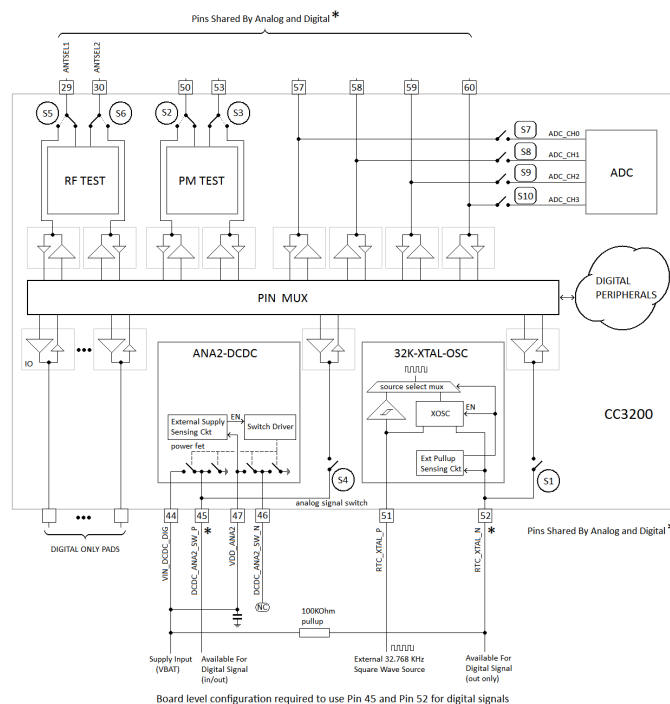

Figure 3-2. Board Configuration to Use Pins 45 and 52 as Digital Signals
(1) LPDS mode: The state of unused GPIOs in LPDS is input with 500 kΩ pulldown. For all used GPIOs, the user can enable internal pulls, which would hold them in a valid state.
(2) Hibernate mode: The CC3200 device leaves the digital pins in a Hi-Z state without any internal pulls when the device enters hibernate state. This can cause glitches on output lines unless held at valid levels by external resistors.
(3) To minimize leakage in some serial flash vendors during LPDS, TI recommends the user application always enable internal weak pulldowns on FLASH_SPI_DATA and FLASH_SPI_CLK pins.
(4) This pin has dual functions: as a SOP[2] (device operation mode), and as an external TCXO enable. As a TXCO enable, the pin is an output on power up and driven logic high. During hibernate low-power mode, the pin is in a high impedance state but pulled down for SOP mode to disable TCXO. Because of SOP functionality, the pin must be used as output only.
(5) Higher leakage current from the onboard serial flash can occur due to floating inputs when the device enters Hibernate mode. See reference schematics for recommended pull-up and pull-down resistors.
(6) For details on proper use, see Section 3.2, Drive Strength and Reset States for Analog-Digital Multiplexed Pins.
(7) This pin is one of three that must have a passive pullup or pulldown resistor on board to configure the chip hardware power-up mode. Because of this reason, if this pin is used for digital functions, it must be output only.
(8) This pin is reserved for WLAN antenna selection, controlling an external RF switch that multiplexes the RF pin of the CC3200 device between two antennas. These pins should not be used for other functionalities in general.
- (9) Device firmware automatically enables the digital path during ROM boot.
- (10) Pin 45 is used by an internal DC-DC (ANA2_DCDC) and pin 52 is used by the RTC XTAL oscillator. These modules use automatic configuration sensing. Therefore, some board-level configuration is required to use pin 45 and pin 52 as digital pads (see Figure 3-2). Because the CC3200R device does not require ANA2_DCDC, the pin can always be used for digital functions. However, pin 47 must be shorted to the supply input. Typically, pin 52 is used for RTC XTAL in most applications. However, in some applications a 32.768-kHz square-wave clock might always be available onboard. In such cases, the XTAL can be removed to free up pin 52 for digital functions. The external clock must then be applied at pin 51. For the chip to automatically detect this configuration, a 100K pull-up resistor must be connected between pin 52 and the supply line. To prevent false detection, TI recommends using pin 52 for output-only functions.
- (11) VDD_FLASH must be shorted to V_{supply} .
- (12) To use the digital functions, RTC_XTAL_N must be pulled high to V_{supply} using 100-K Ω resistor.
- (13) This pin is shared by the ADC inputs and digital I/O pad cells. Important: The ADC inputs are tolerant up to 1.8 V. On the other hand, the digital pads can tolerate up to 3.6 V. Hence, care must be taken to prevent accidental damage to the ADC inputs. TI recommends that the output buffer(s) of the digital I/Os corresponding to the desired ADC channel be disabled first (that is, converted to high-impedance state), and thereafter the respective pass switches (S7, S8, S9, S10) should be enabled (see Section 3.2, Drive Strength and Reset States for Analog-Digital Multiplexed Pins).
- (14) Requires user configuration to enable the ADC channel analog switch. (The switch is off by default.) The digital I/O is always connected and must be made Hi-Z before enabling the ADC switch.